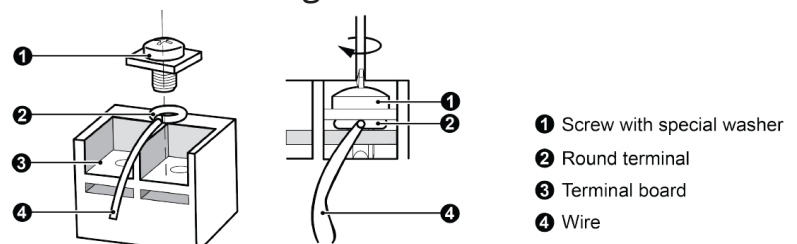

Fig. 7.2
- 4) Locate the round terminal conduit. Use a screwdriver to replace and tighten the terminal screw. (See fig. 7.2)